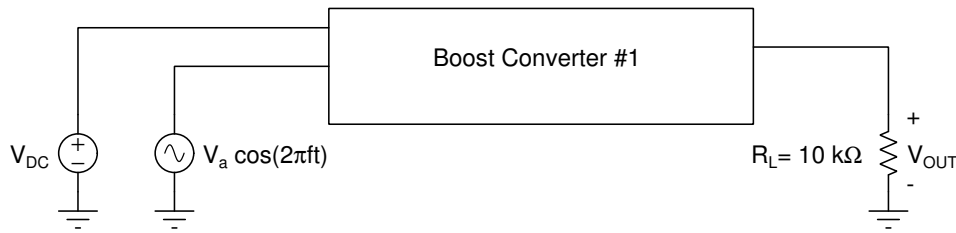

Figure 1: Block diagram of a boost converter.
**Introduction:** A block diagram of a boost converter is shown in Figure 1. A boost converter is used in many applications to increase the DC voltage from a low voltage source, such as from a battery. The properties of the diode, and the Villard voltage multiplier circuit, are discussed in class. The Villard voltage multiplier is used to combine a DC ( $V_{DC}$ ) and a sinusoidal ( $V_a \cos(2\pi ft)$ ) voltage to produce a DC output voltage ( $V_{OUT}$ ). A filter is used to reduce the ripple on the output.